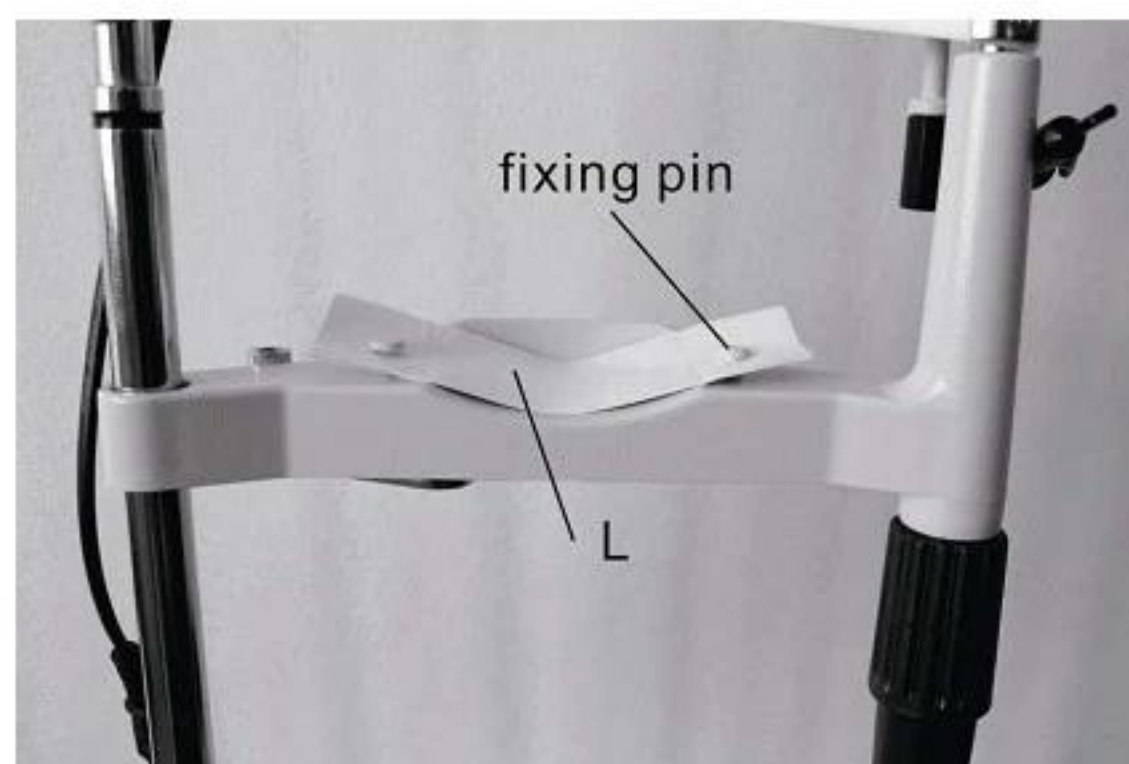

Fig.17
- ✧ Insert the fixing pins into the hole again (Fig.17).